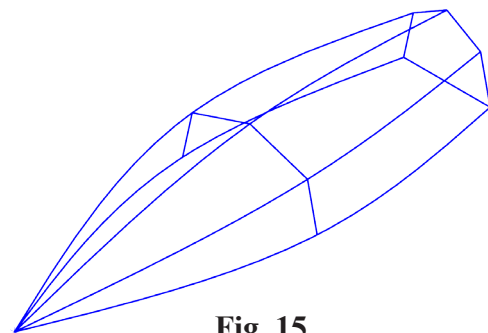

Fig. 15
Step 5. Finish with **3** spline across bottom of ribs, **Fig. 15**.